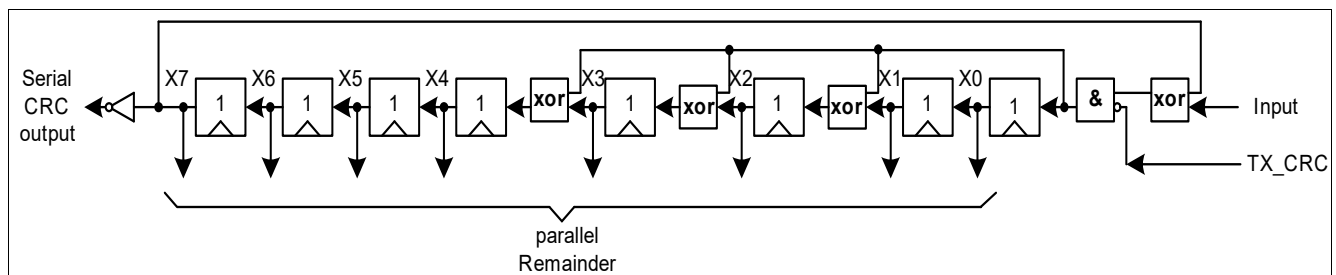

Figure 13 Fast CRC polynomial division circuit
- Generator-Polynomial: $X^8+X^4+X^3+X^2+1$; for the CRC generation the fast-CRC generation circuit is used (see **Figure 13**)